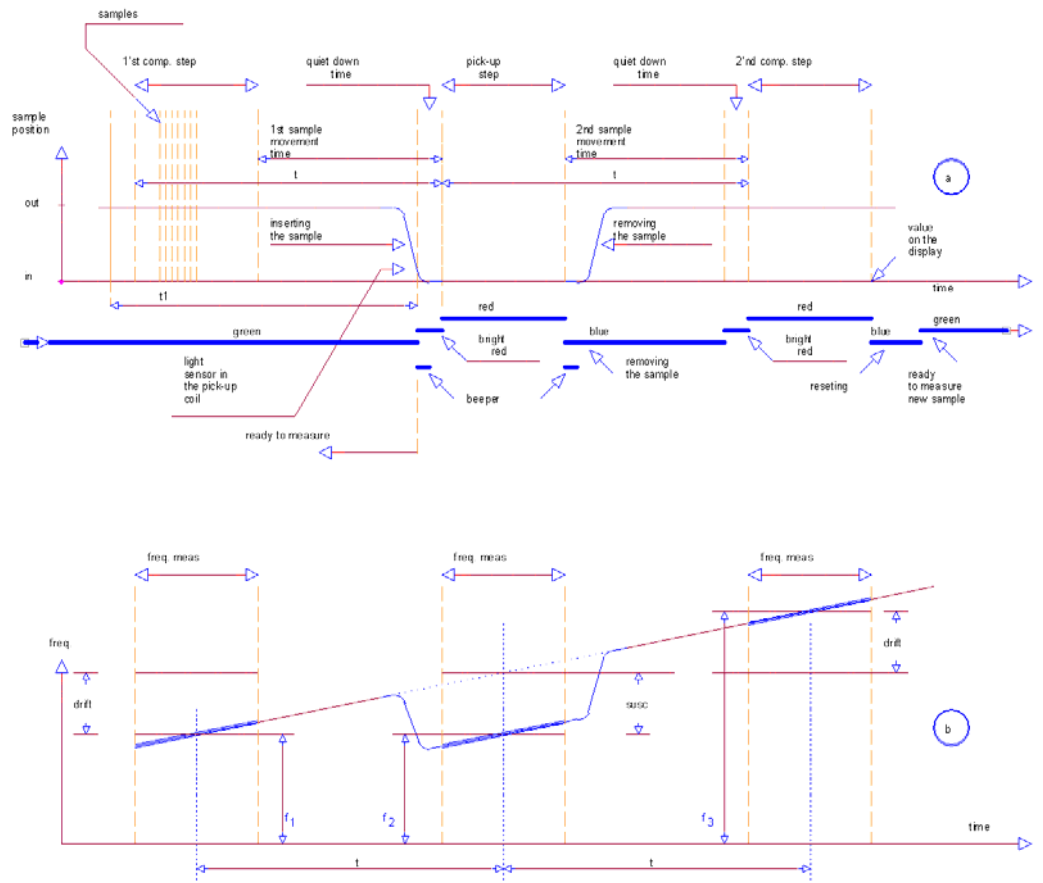

Fig.3
The SM-100 instrument is controlled by computer. The Fig.4 shows „Measuring control“ window, „Document“ window, „Settings“, „Scale calibration“ and „Kappa calibration“ windows. The „Document“ window contains table with measured values and other important data and is placed on the background. This table can be stored to the XML file (for more details see chapter 5). Fig. 3 describes technical implementation of SM-100. During the period of time when the instrument is ready to measure the rock sample, the frequency is continually being measured at very short successive intervals. The results of the measurements are transferred to computer and stored in "barrel shift memory". The oldest measurements are replaced by the latest ones, therefore we have the information about the time period, which is represented in Fig.3 by t_1 . There are a few examples of time samples in Fig.3.
The period of time when the instrument is ready to measure is represented in Fig.3 by *ready to measure*. During this period computer is constantly monitoring the frequency sample's standard deviations in barrel shift memory. The result of this is displayed in the status window under a name *noise*, see Fig.4. Placing of a rock sample into the instrument is recognised by an weighting sensor inside the instrument and the numerical value, which is equivalent to "1'st compensation step", is calculated from the "barrel shift memory" data. The computer
simultaneously beeps and status window changes color and notice, as shown in Fig.3a. "1'st sample movement time" is over and " the pick-up step" is initialized. The end of " the pick-up step" is again signalled by a beep and followed by a change in color and notice in the status window. Now is the moment for an operator to remove a sample from the pick-up coil. This is represented in Fig. 3. by "2'nd sample movement time". After that "2'nd compensation step" follows automatically.
5. Insert the pot with sample. The instrument produces a beep. Status window changes color and notice, as shown in Fig.3. The threshold value of the weight of the sample for inicalization of this step is 3g. Concerning the sample with the weight <3g; The information about insertion and removal of the sample can be supplied to the instrument by pressing hotkeys F5 (insertion) and F6 (removal).These hotkeys must be enabled in the menu „Measuring“ by deselecting the first menu item „Use weight as a start pulse“. If the weight of the sample is very small (very near to 0g), the evaluation of the mass
6. When the second beep is produced after a short while, the sample should be removed and placed in a reasonable distance from the coil. Status window changes color and notice, as shown in Fig.3.
4.3 Figure 3